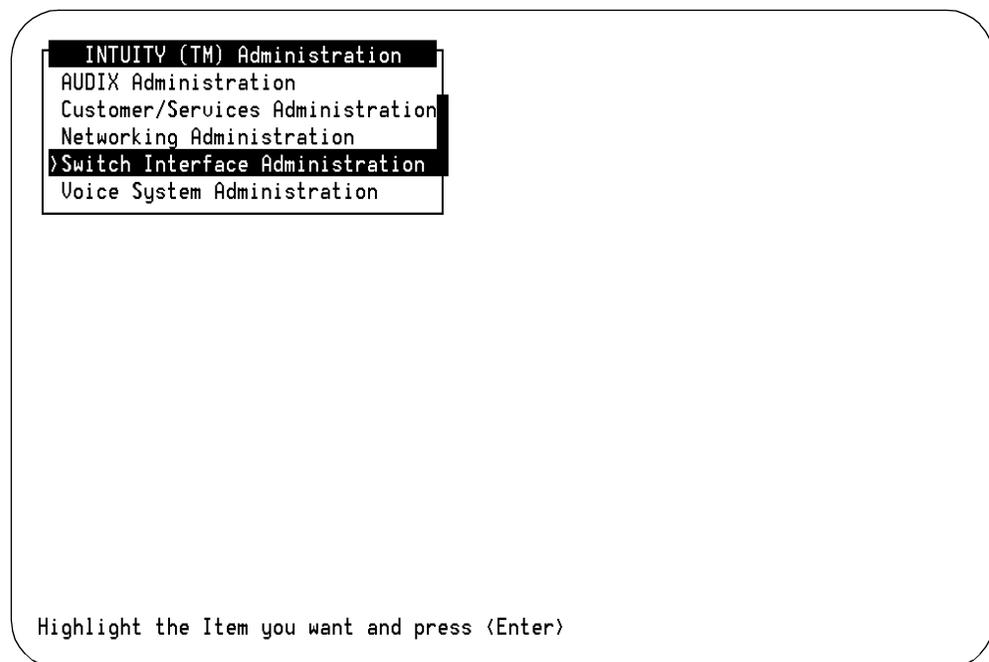

Figure A-1. INTUITY (TM) Administration Screen
When you see the INTUITY (TM) Administration screen (shown in Figure A-1 below), you are logged into the system. You do not need to log into a system that is displaying this screen. However, you may wish to logoff the system and log back onto the system to ensure that you are using the correct login.
The system responds with the *INTUITY (TM) Administration* menu, as shown in Figure A-1, below.
In Figure A-1, the INTUITY (TM) Administration screen shows only a few of the options that may be operating on the INTUITY system. Your INTUITY (TM) Administration screen will display menu bars only for the options loaded onto the system that you are installing.